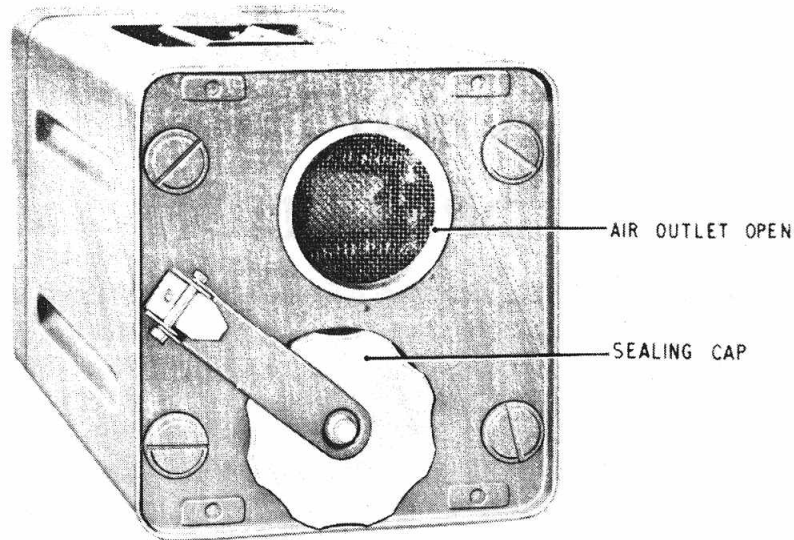

FIG. 20
- (1) Air inlets and outlets must always be open when the sender is switched on. Release the turn-button catches and open the air inlet covers on the front panel of the sender (two covers) and the power supply unit (one cover).
- (2) Unscrew the caps to the air outlets in the rear of the sender (one cap) and the power supply unit (one cap). Swing the caps down to the stowage position as shown in fig. 20 above.